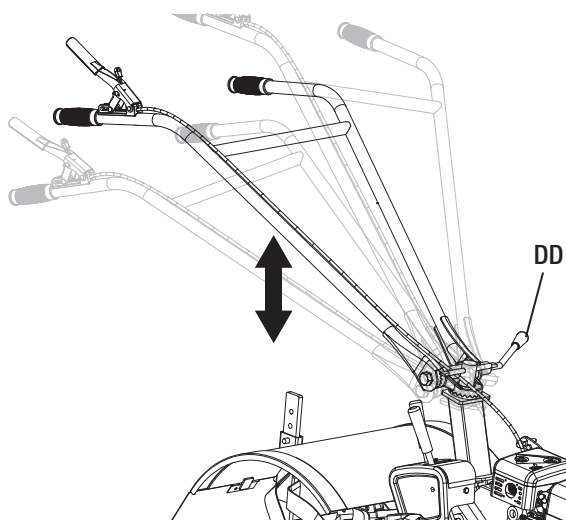

Figure 1-10
- To adjust the handle height just loosen the up/down lever lock (DD) and push handle up or down to the required height. Then tighten the up/down lever lock (DD). See Figure 1-10.